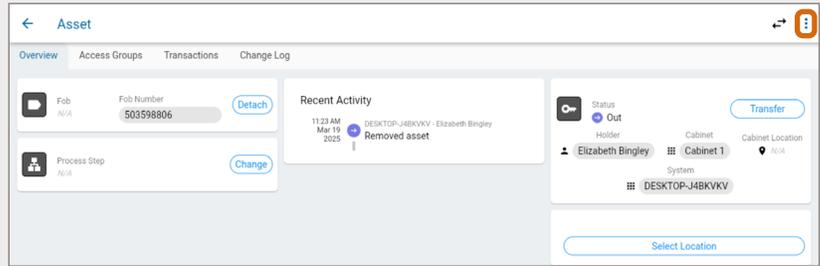

Fig. 61 – Unregistered asset found
- Select the **quick action menu**  in the upper right of the Asset details screen, as shown in Fig. 61.